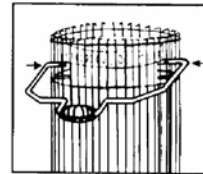

Fig. 7
E) INSTALLING CARRYING HANDLE:(Fig. 7)